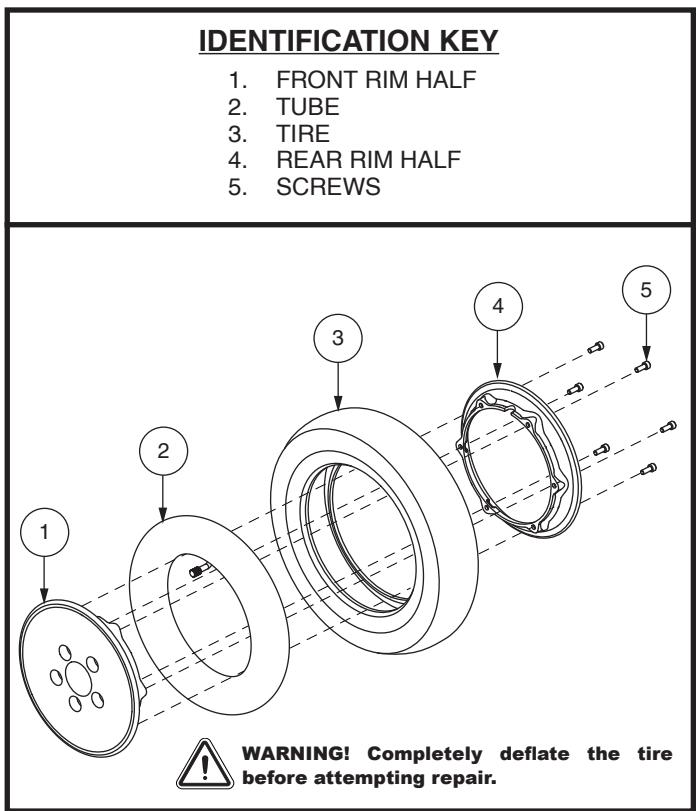

Figure 21. Pneumatic Drive Wheel Disassembly/Assembly
6. Remove the screws and separate the rim halves. See figure 21.